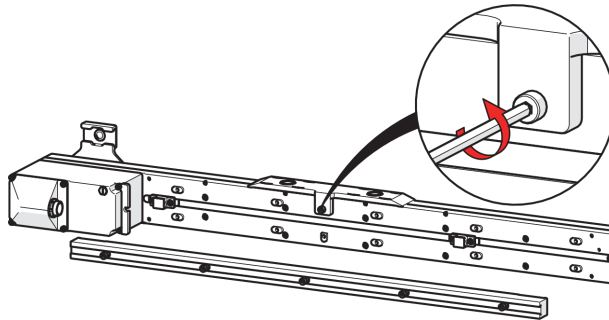

Figure 2-46 Remove magnetic base
4. Remove the magnetic base from the raster arm (see Figure 2-46 on page 79).